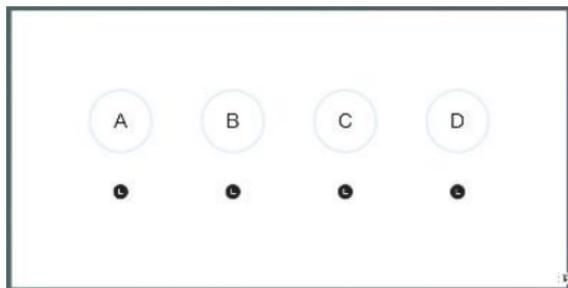

Figure 8-1: DNBSEQ-T7 Main Interface
- Enter the user name "user" and password "123", click "Log in" to enter the main interface (see Figure 8-1):